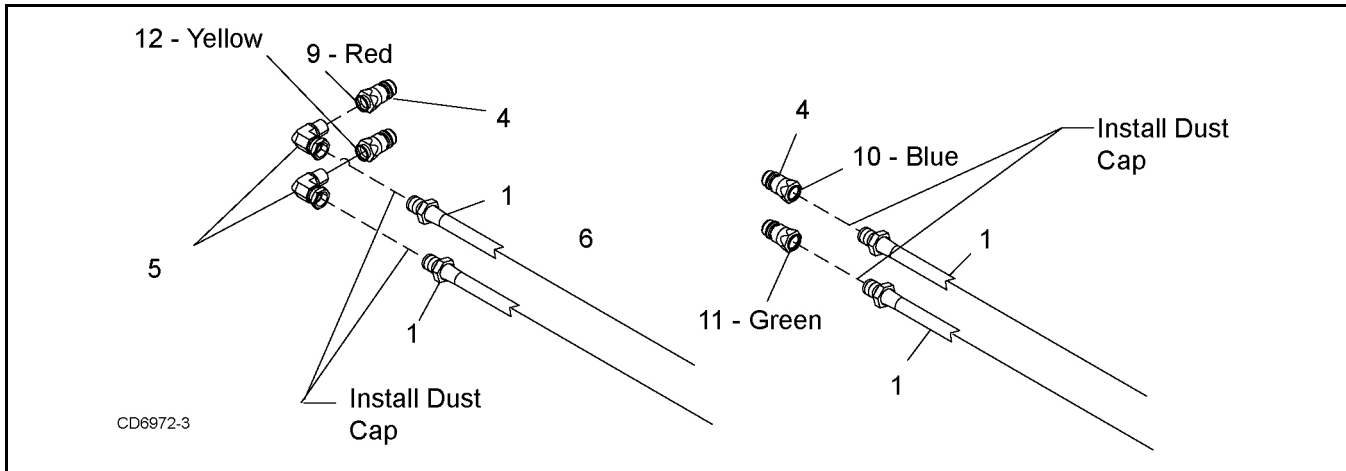

Figure 14. Hose Assembly
1. Attach male half of quick coupler set (4), colored bands (10 & 11), and dust caps (8) to the end of two loader supply hoses (1). See Figure 14.
2. Attach male half of quick coupler set (4), elbow (5), colored bands (9 & 12), and dust caps (8) to the end of other two loader supply hoses (1). See Figure 14.